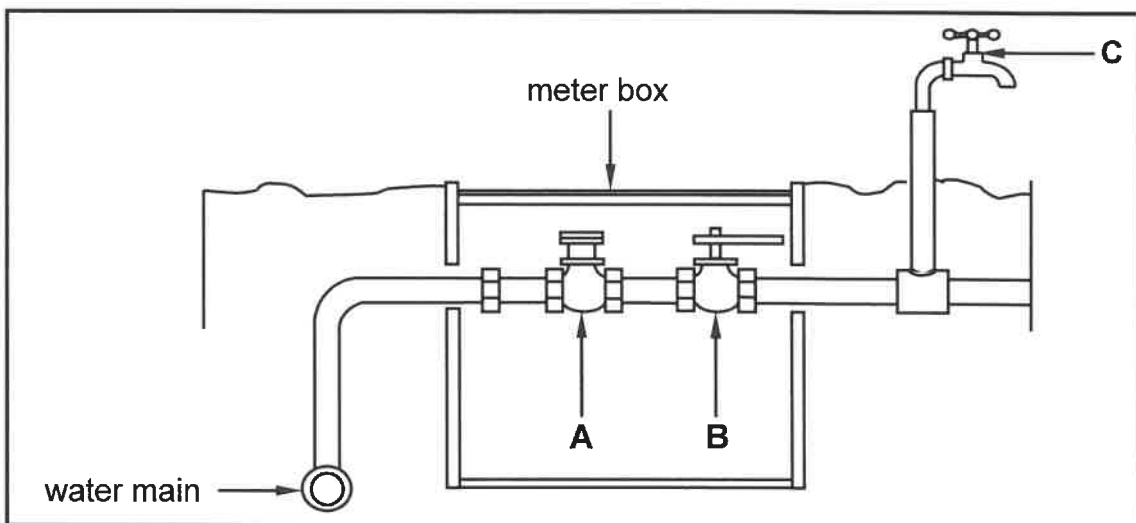

FIGURE 4.12
4.12 FIGURE 4.12 below shows a typical cold-water installation in a house. Study the drawing and answer the questions that follow.